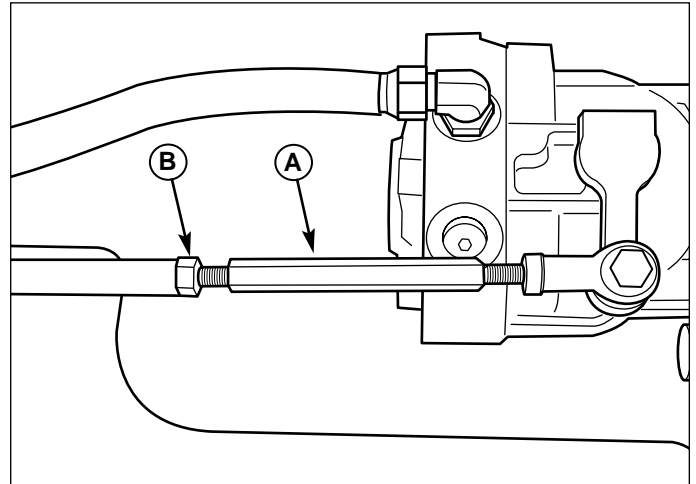

Figure 37. Neutral Adjustment
2. Loosen the jam nut (B, Figure 37) and turn the adjustment linkage (A) to adjust. If the machine creeps forward, turn the linkage CLOCKWISE (while standing at the rear of the machine, facing forward), if the machine creeps backward, turn the linkage COUNTER-CLOCKWISE.
3. Lock the jam nut (B) when neutral is achieved.